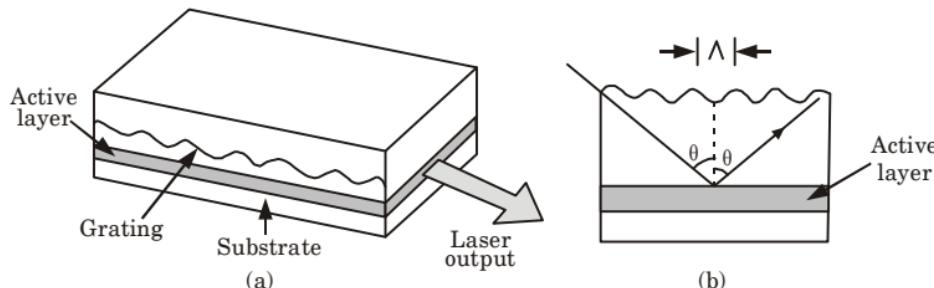

Fig. 3.15.1. Distributed feedback, (DFB) laser diode; (a) Structure of DFB laser diode; (b) Working of distributed feedback.
1. A typical DFB laser configuration is shown in Fig. 3.15.1(a). A DFB laser diode has the Bragg grating incorporated into its heterostructure in the vicinity of an active region.
- This is done by reflecting a portion of the light at each slope of the grating as shown for one beam in Fig. 3.15.1.(b). All the portions reflected at each slope of this corrugated structure then combine so that most of the light will be reflected back provided that Bragg's condition is satisfied.